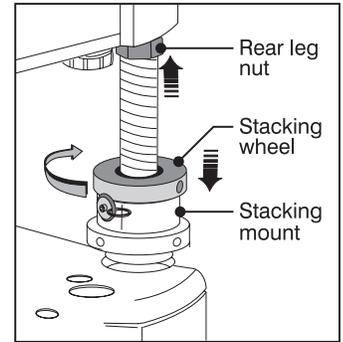

Figure 2.16. Secure All Hardware
- ❑ Turn all (3) stacking wheels until they are *firmly secure* against the rest of the stacking mount (Figure 2.16).
- ❑ Secure both (2) rear leg nuts against the bottom of the projector.